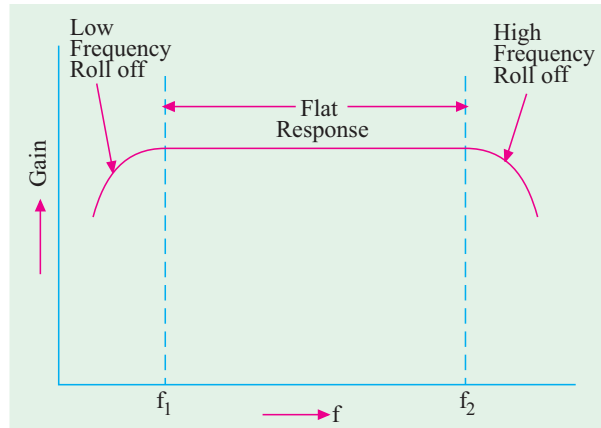

Fig. 61.9
4. As shown in Fig. 61.9, it has a very flat frequency *versus* gain curve *i.e.* it gives uniform voltage amplification over a wide range from a few hertz to a few megahertz because resistor values are independent of frequency changes.
As seen from Fig. 61.9, amplifier gain falls off at very low as well as very high frequencies. At low frequencies, the fall in gain (called *roll-off*) is due to capacitive reactance of the coupling capacitor between the two stages. The high-frequency roll-off is due to output capacitance of the first stage, input capacitance of the second stage and the stray capacitance.